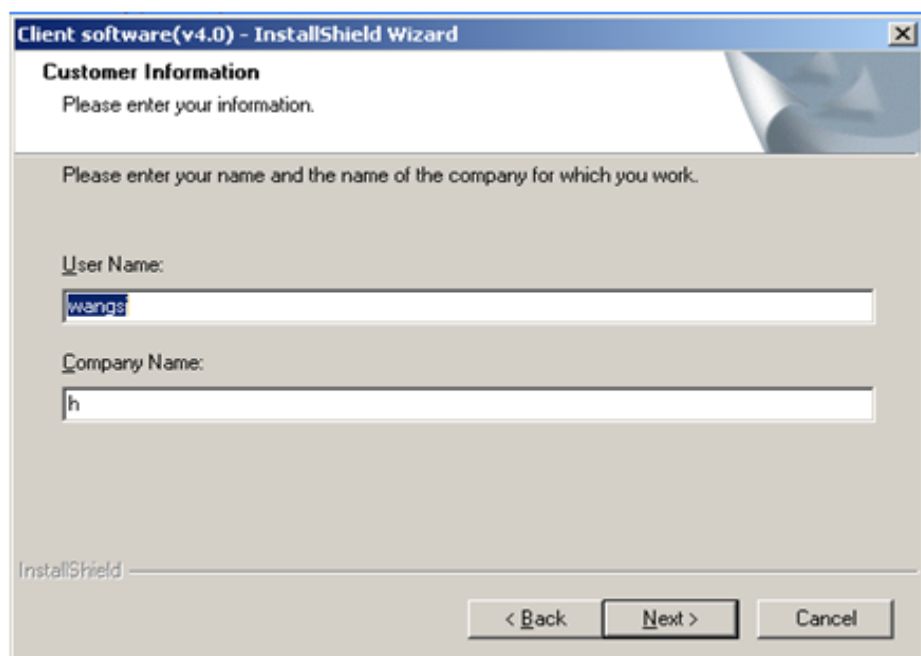

Fig.2.4.3 Customer Information
Step2: Enable the option "I accept the terms of the license agreement" and click the "Next" button to go to the next step as Fig.2.4.3.